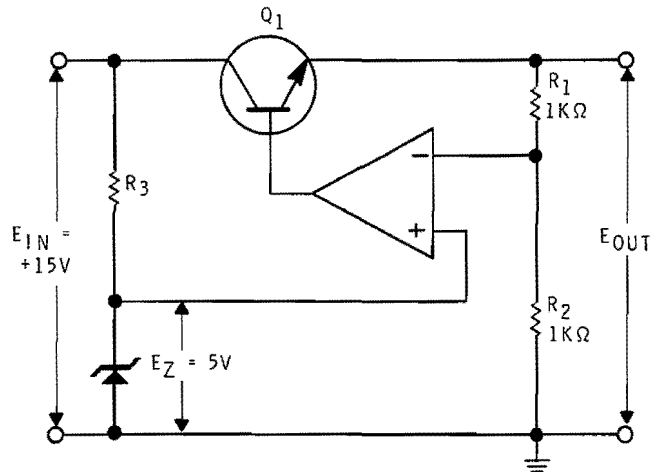

Figure 4-68
14. Refer to Figure 4-68. The value of  $E_{out}$  is approximately: